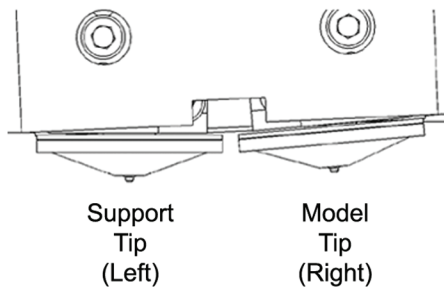

Figure 12: Close-up of extrusion tips
- Watch the model extrusion tip (see Figure 12 on page 35) to see if material extrudes (purges) after loading. The panel will then display **Did Model Material Purge?**
- Watch the support extrusion tip (see Figure 12) to see if material extrudes (purges) after loading. The panel will then display **Did Support Material Purge?**